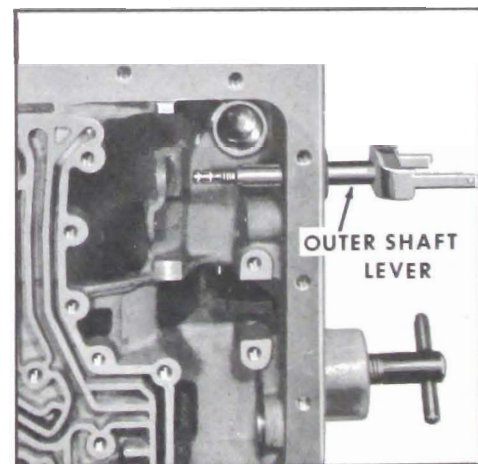

Figure 5-278
4. With a twisting motion insert outer range selector lever into case. See Figure 5-278.